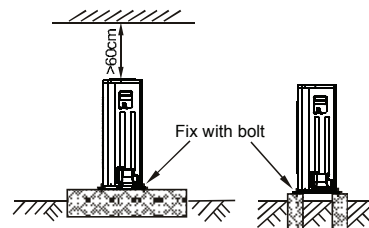

Fig. 6-6
- Make concrete foundation according to the specifications of the outdoor units.(Refer to Fig.6-6)
- Fasten the feet of this unit with bolts firmly to prevent it from collapsing in case of earthquake or strong wind.(Refer to Fig.6-6)